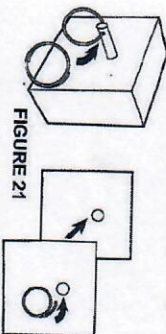

FIGURE 21
6. After the extinguisher system installation is complete and final adjustments have been made, replace the manual pull station cover plate, insert the pull ring into the pull pin and install the tamper seal. (See Figure 21)